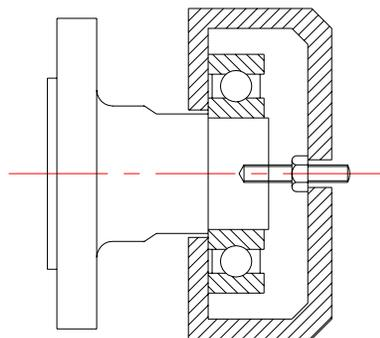

Fig. 38
- d) Should the bearing remain on the shaft, fit the removal tool (Fig. 38) and ease the bearing from the shaft.